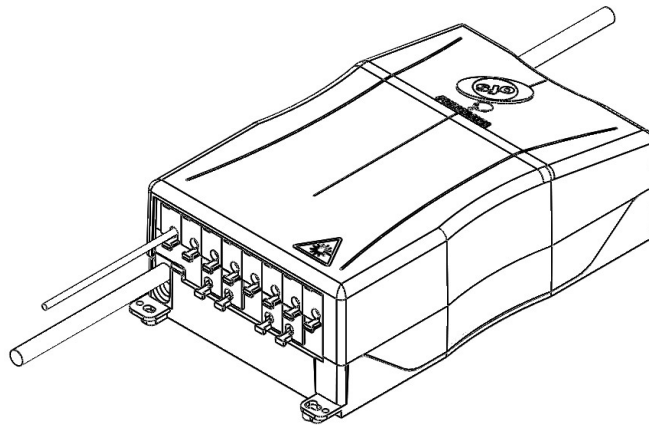

Fig. 34
- Turn the logo 180 degrees to hide the cover captive screw (Fig. 34)